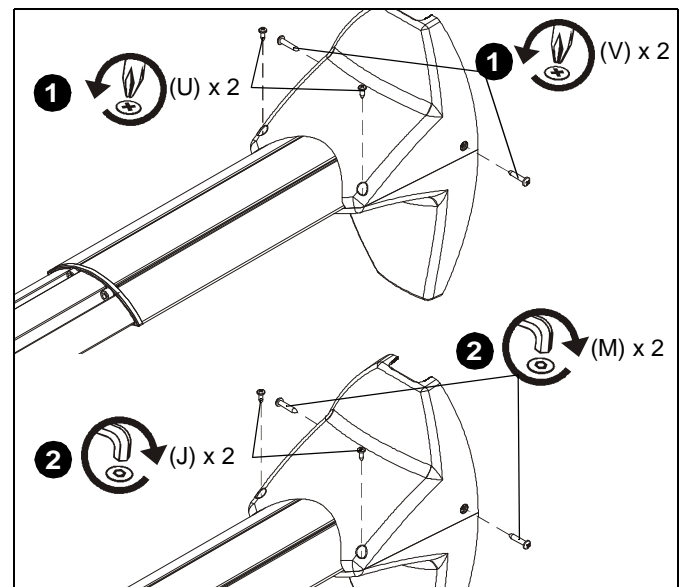

Figure 28
1. Remove two #8 x 1/2" Phillips screws (U) and two #10 x 1" Phillips screws (V) from top and lower covers. (See Figure 28)
2. Install two 8-32 x 1/2" buttonhead security screws (J) and two 10-24 x 1" buttonhead security screws (M) into top and lower covers. (See Figure 28)